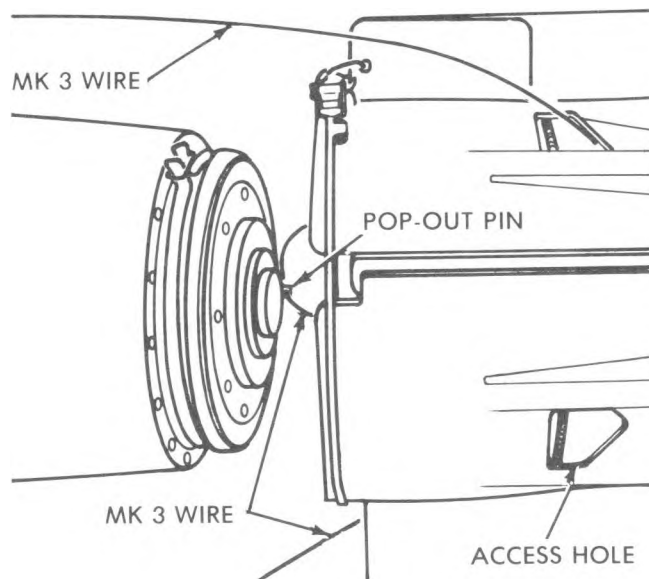

Figure 3-32. Arming Wire MK 3 Routed through Fin and Pop-Out Pin
10. Thread arming wire through pop-out pin of tail fuze (figure 3-32). Then pass wire through small hole at bottom of fin support.